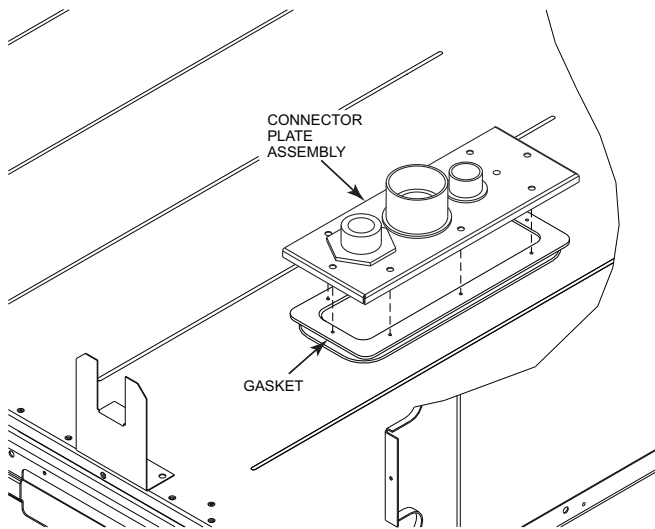

Fig. 21 — Completing Installation of Thru-the-Base Option
4. Place the gasket over the embossed area in the basepan, aligning the holes in the gasket to the holes in the basepan. See Fig. 21.